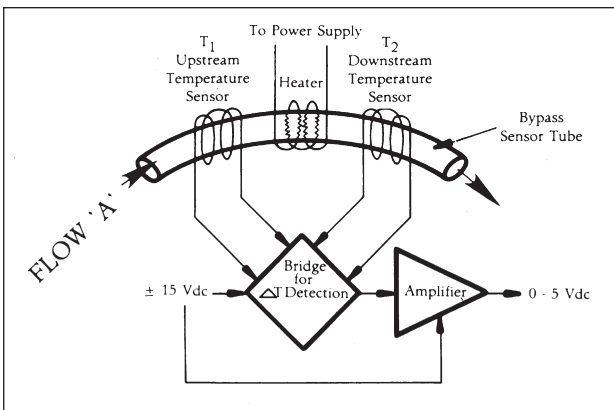

Figure 3-1. Flow sensor operational diagram
A precision power supply provides a constant power heat input (P) at the heater, which is located at the midpoint of the sensor tube. Refer to figure 3-1. At zero, or no flow conditions the heat reaching each temperature sensor is equal. Therefore the temperatures T1 and T2 are equal. When gas flows through the tube the upstream sensor is cooled and the downstream sensor is heated, producing a temperature difference. The temperature difference T2-T1, is directly proportional to the gas mass flow. The equation is: $\Delta T = A * P * C_p * m$